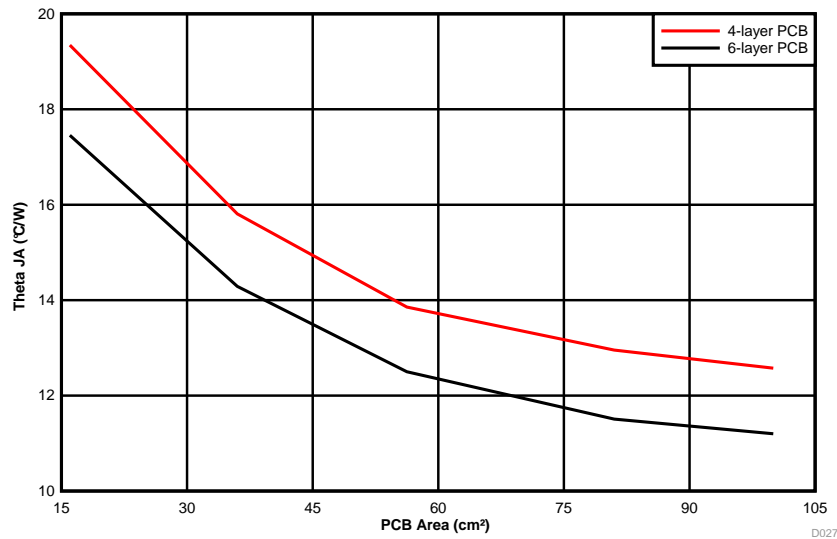

图 52.  $\theta_{JA}$  vs PCB Area
The amount of PCB copper effects the thermal performance of the device. 图 52 shows the effects of copper area on the junction-to-ambient thermal resistance ( $R_{\theta JA}$ ) of the LMZM33604. The junction-to-ambient thermal resistance is plotted for a 4-layer PCB and a 6-layer PCB with PCB area from 16 cm2 to 100 cm2.
3. Reference 图 52 to determine the minimum required PCB area for the application conditions.